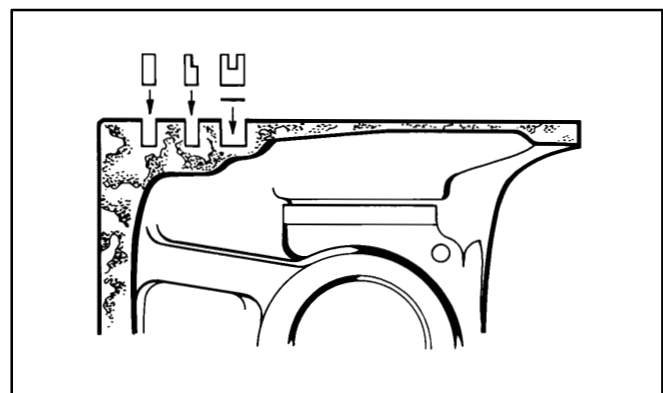

FIGURE 83. PISTON RINGS
3. Refer to Figure 83. Use a piston ring spreader to install the piston rings to prevent twisting or excessive expansion. Follow the instructions in the ring kit exactly. Note which ring goes in which groove and which side of the ring is "up". Also note that the oil control ring is an assembly.